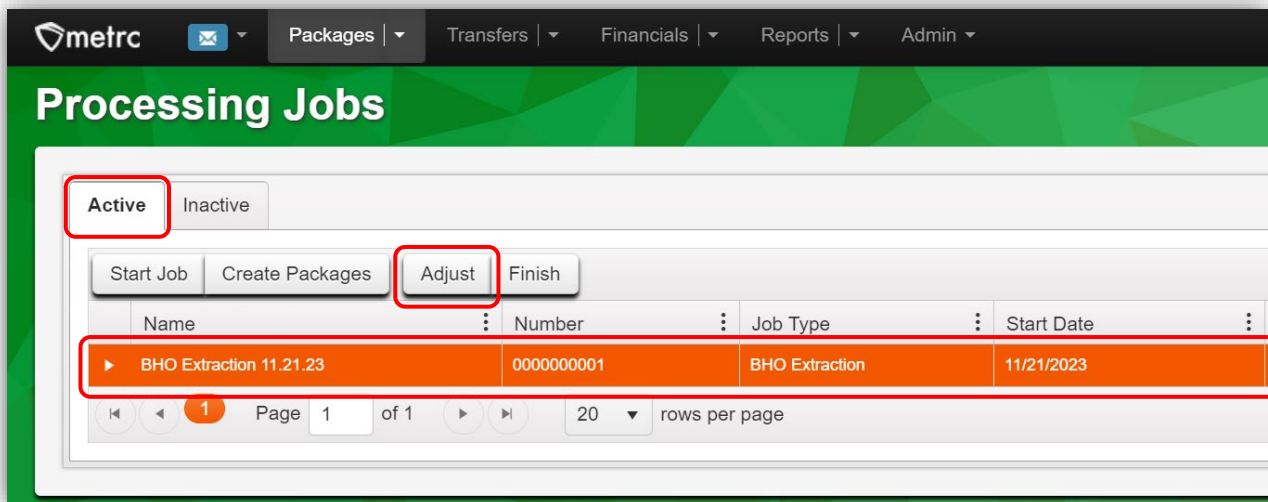

Figure 12: Adjust a Processing Job
- Once on the Processing Jobs grid, select the Active tab, highlight the Processing Job to adjust, then select the Adjust button to access the Adjust Processing Jobs action window – **see Figure 12**.